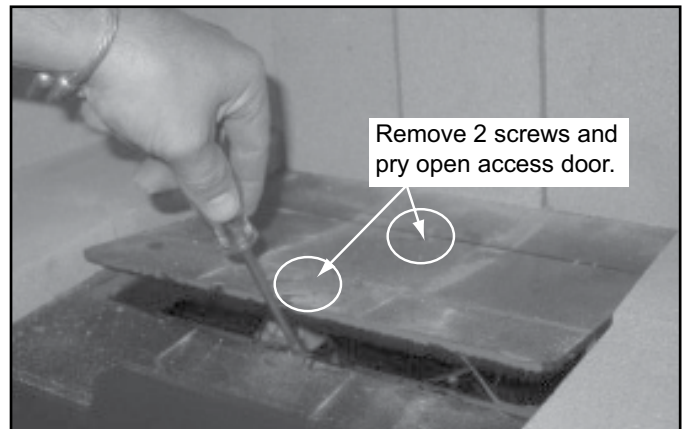

Figure 4.11 Open Access Door
2. Remove 2 Phillips head screws and pry open access door in the bottom of the fireplace with a flat head screwdriver. Figure 4.11